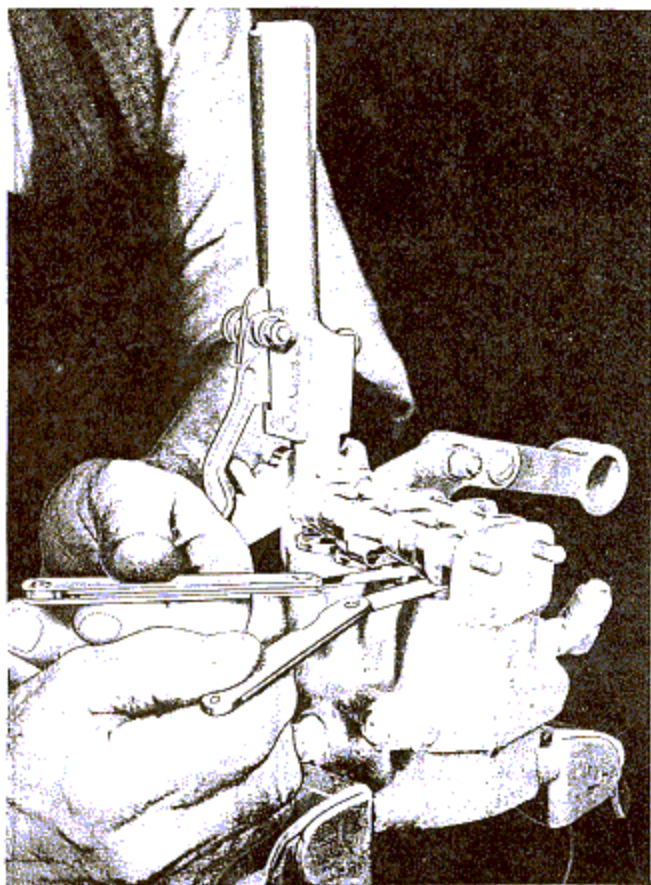

Figure 240—Testing Clearance of Camshafts and Followers
1. When the control valve is completely assembled, check the clearance of the camshafts and followers with feeler gages as illustrated in figure 240. The clearance between camshafts and followers must be between .005 and .015 inch.